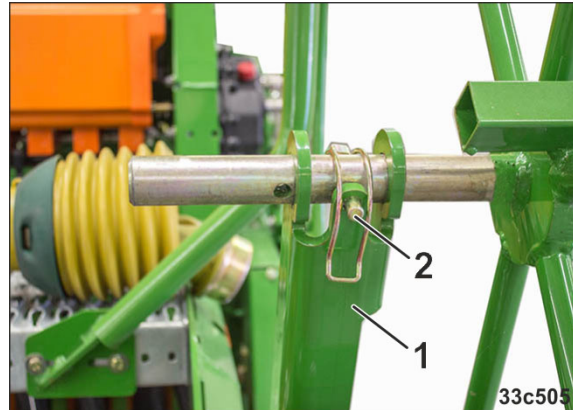

Fig. 145
1. Pull the star wheel out of the transport bracket (Fig. 145/1). The star wheel is secured with a linch pin (Fig. 145/2).